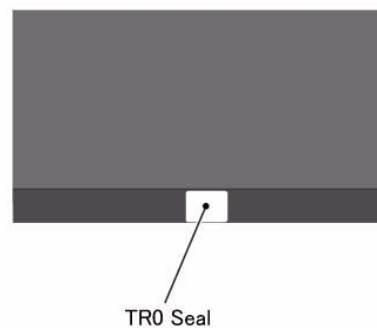

Figure 1 Clean the surface beside the old TR0 Seal
8. Using drum cleaner, clean the surface beside the old TR0 Seal (left or right, either one is ok; this will be the position to paste the new TR0 Seal). (Figure 1)